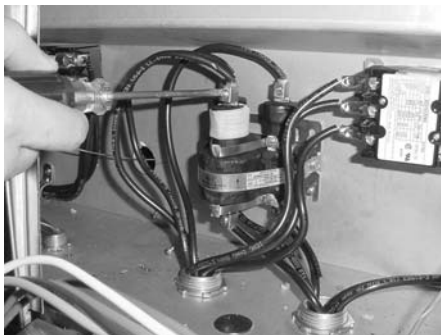

Figure 2-54
1. Remove only the wires directly connected to the contactor being replaced. Label the wires for replacement. Figure 2-54.